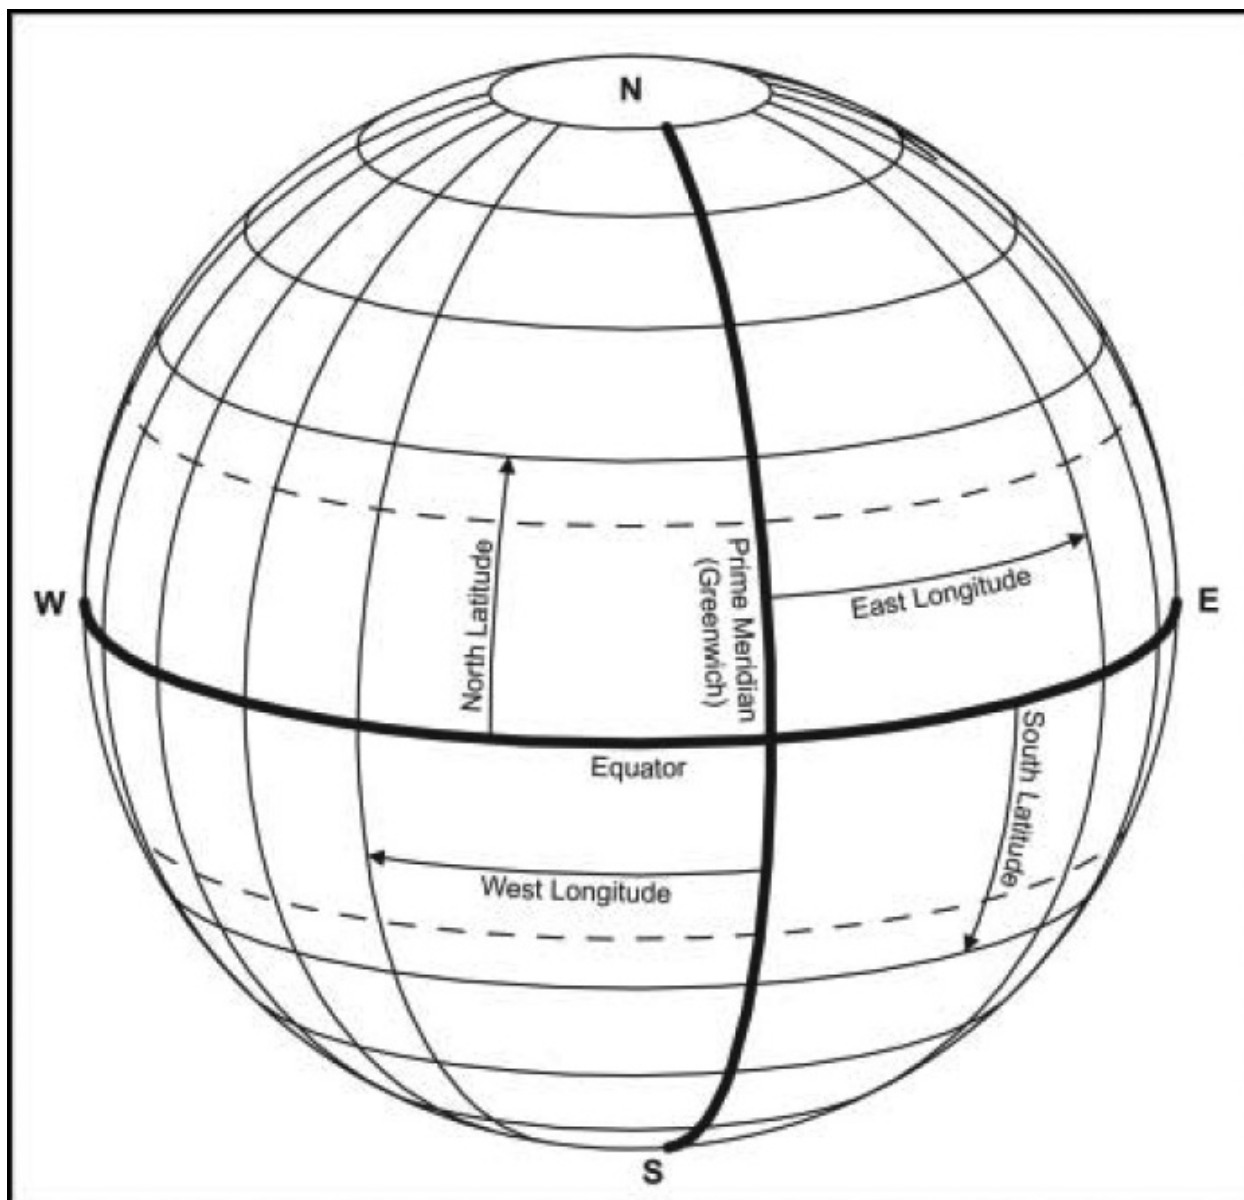

Figure 4-4. Global latitude and longitude lines
4-30. Lines of Longitude (Meridians). Meridians of longitude run in a north-and-south direction and intersect at the poles (Figure 4-4, page 60). The meridian that passes through Greenwich, England, is the reference for measurements of longitude. It is designated as the prime meridian or 0 degrees. The longitude of any position is related to degrees East (E) or degrees West (W) from Greenwich to the maximum of 180 degrees (International Date Line) either way. East and West are an essential part of any statement using longitude. Degrees of longitude are always written as three-digit numbers and include the Easting or Westing, for example, 034° E or 123° W. The scales used to determine the longitude of any particular point are located at the top and bottom of the chart.
4-31. **Lines of Latitude (Parallels).** Parallels of latitude run in an east-and-west direction. They are measured from the equator starting at 0 degrees and increasing to 90 degrees at each pole (Figure 4-4, page 60). Navigators should put N for North or S for South when using parallels of latitude. Lines running from side-to-side indicate the latitude parallels on a nautical chart; the latitude scales are indicated along the side margins by divisions along the black and white border. One degree of latitude (arc) is equal to 60 nautical miles on the surface of the earth.